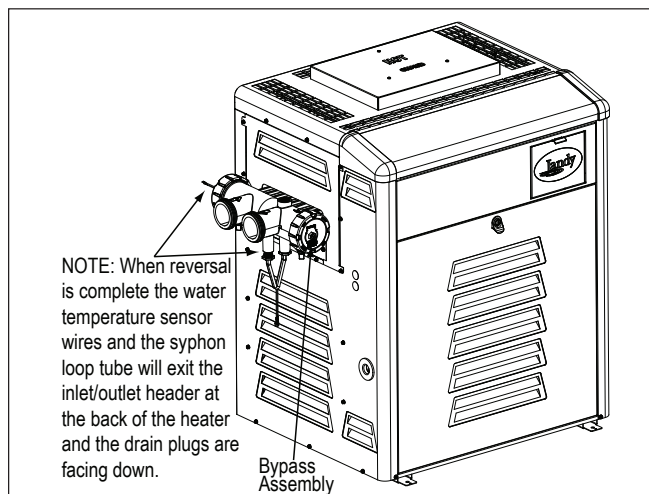

Figure 9. Water Connections Reversed
9. Remove the ten (10) bolts and washers from the inlet/outlet header and remove the header from the tube assembly.
10. Remove the ten (10) bolts and washers from the return header and remove the header from the tube assembly.
12. Place the inlet/outlet header over the bolts and gasketed tubes on the left side of the tube assembly. Align the bolt and tube holes in the header with the bolts and tubes in the header bar and slide the assembly together. Refer to Figure 9.